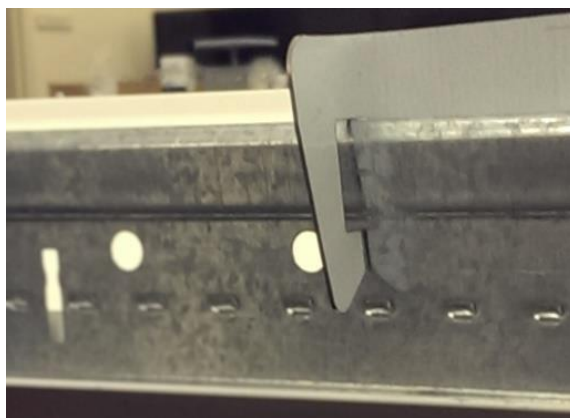
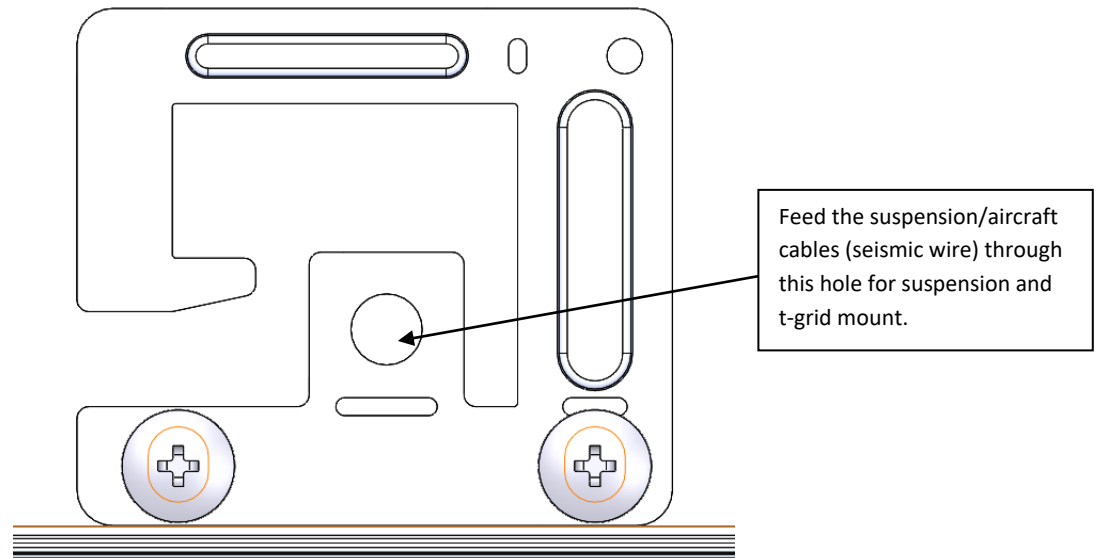

Figure 1: Attached T-Bar Clip
Figure 2: Suspension Mount location
2. From above ceiling, bend the attached T-Bar clips over the T-Bar ceiling on all 4 corners to secure the fixture to the T-Bar ceiling as shown in Figure 1. For suspension mounting, refer to Figure 2, and instructions provided with aircraft cable accessory.